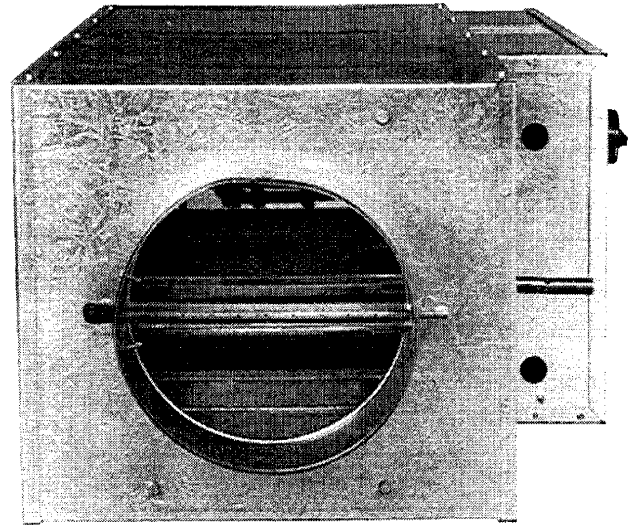
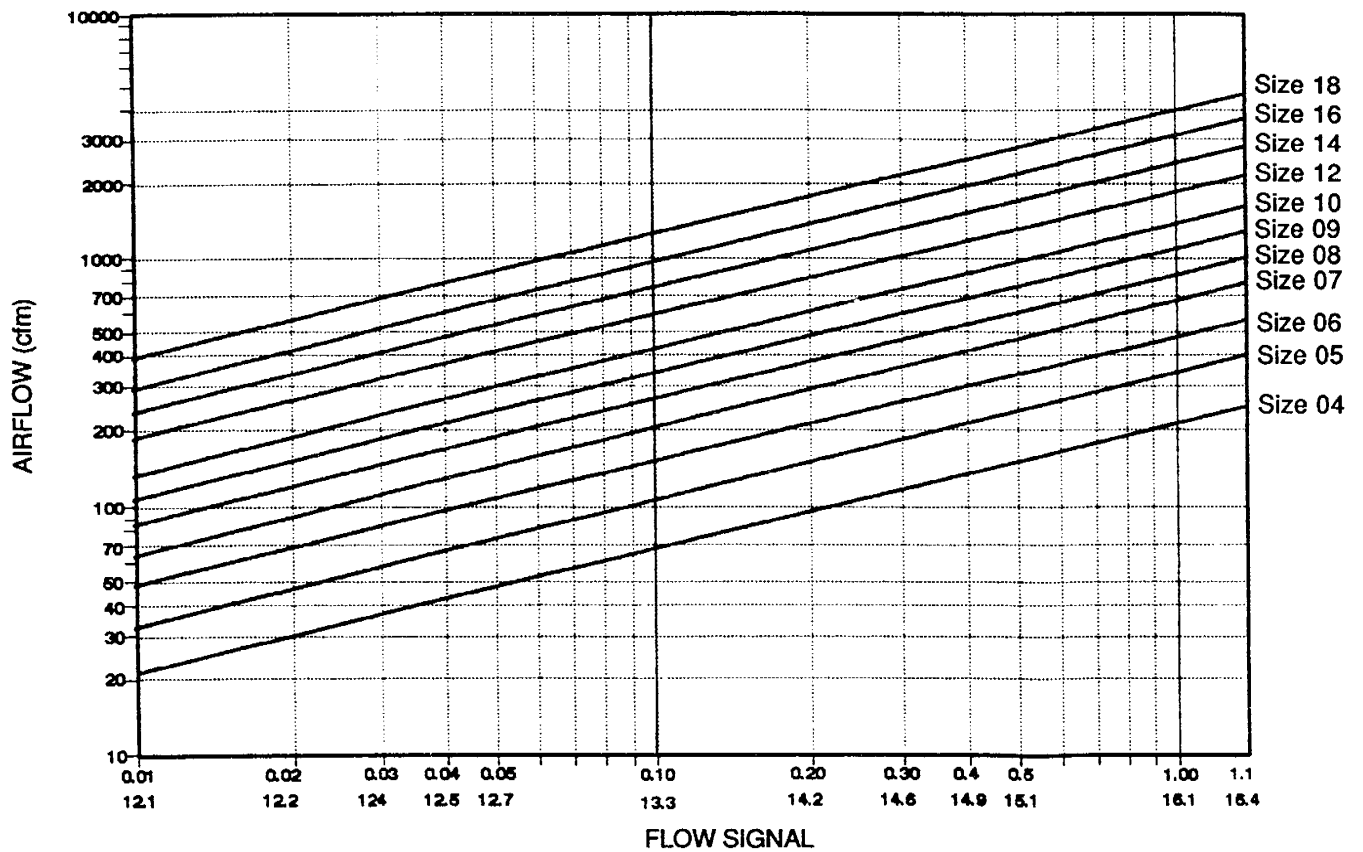

Fig. 27 — Flow Probe
Fig. 28 – Linear Averaging Probe Chart
Field Adjustment of Minimum and Maximum Airflow Set Points — Each 35D is equipped with a flow probe (see Fig. 27) which measures a differential pressure proportional to the airflow. The relationship between flow probe pressures and cfm is shown in the airflow chart in Fig. 28. This chart is attached to each unit.
7. Read the differential pressure and enter the Linear Averaging Probe Chart to determine the airflow in the terminal unit. This chart is shown in Fig. 28 and is also attached to the side of each unit. For example, a differential pressure of 0.10 in. wg for a size 8 unit yields an airflow of 275 cfm.
- b. Adjust the minimum volume control knob (marked "LO" and located in the center of the controller) to achieve the required minimum flow. To determine the required pressure differential, refer to Table 5 and the Linear Averaging Probe Chart provided on the side of the VAV unit and in Fig. 28.
- c. Adjust the maximum volume control knob (marked "HI" and located at the side of the controller) until the desired pressure differential is registered on the manometer. To determine the required pressure differential, refer to Table 5 and the Linear Averaging Probe Chart provided on the side of the VAV unit and in Fig. 28.
- c. Adjust the minimum volume control knob (marked “LO” and located in the center of the controller) until the desired pressure differential is registered on the manometer. To determine the required pressure differential, refer to Table 5 and the Linear Averaging Probe Chart provided on the side of the VAV unit and in Fig. 28.
- b. Adjust the maximum volume control knob (marked “HI” and located on the side of the controller) until the desired pressure differential is registered on the manometer. To determine the required pressure differential, refer to Table 5 and the Linear Averaging Probe Chart provided on the side of the VAV unit and in Fig. 28.
- b. Adjust the maximum volume control knob (marked “HI” and located in the center of the controller) to achieve the required minimum flow. To determine the required pressure differential, refer to Table 5 and the Linear Averaging Probe Chart provided on the side of the VAV unit and in Fig. 28.
- c. Adjust the minimum volume control knob (marked “LO” and located on the side of the controller) until the desired pressure differential is registered on the manometer. To determine the required pressure differential, refer to Table 5 and the Linear Averaging Probe Chart provided on the side of the VAV unit and in Fig. 28.